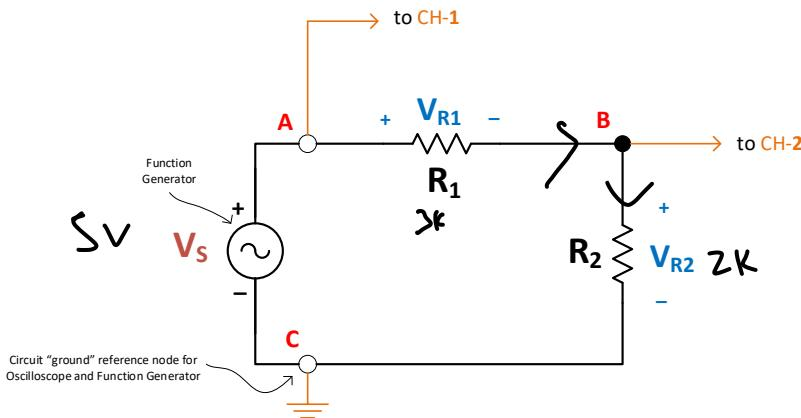

Figure 2.0: Simple AC circuit for *nodal* voltage measurements
- (b) For the simple AC circuit shown in **Figure 2.0**, the resistor values chosen for $R_1 = 3 \text{ k}\Omega$ and $R_2 = 2 \text{ k}\Omega$. The input AC voltage source, V_s is a sinusoidal signal with peak voltage amplitude, $V_P = 5\text{V}$ and frequency, $f = 1000\text{Hz}$. That is, $V_s(t) = 5 \sin(2\pi 1000t + 0)$ volts.
Table 2.0: Theoretical voltage values of Figure 2.0 circuit
(e) Use **MultiSIM** to construct and simulate the circuit in **Figure 2.0**, with resistors $R_1 = 3k\Omega$ and $R_2 = 2k\Omega$. Ensure that *node C* of the circuit is used as the *common ground* for all equipment.
(Note: Unlike the DMM multimeter, the voltage V_{R1} across resistor R_1 cannot be measured directly because the outer conductor of the oscilloscope input channel (and cable) is always connected internally to “ground”, which in turn gets referenced to the “common ground” of a circuit, like the *node C*. If you attempt to directly measure the differential voltage across R_1 with the oscilloscope, then *node B* will get shorted to “ground”, thereby invalidating the circuit’s operation. Therefore, in such situations, you **must use** node voltages (V_A and V_B) to determine the voltage across R_1 . For the circuit in **Figure 2.0**, you should verify that $V_{R1} = V_A - V_B$ and $V_{R2} = V_B - 0$)
Table 3.1: MultiSIM measured values of Figure 2.0 circuit
(b) AC Measurements on the Voltage-Divider circuit (Figure 2.0)
1. Construct the circuit of **Figure 2.0** on your breadboard using resistors **R₁ = 3kΩ** and **R₂ = 2kΩ** from your Kit components. Ensure that *node C* of the circuit is used as the *common ground* for all equipment connections.